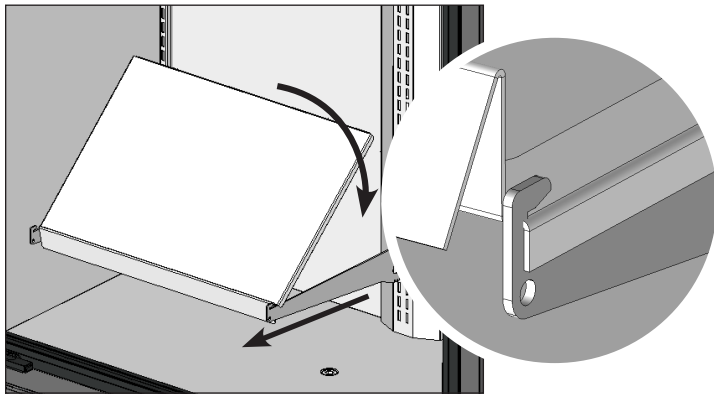

Fig. 5. Position the shelf while lifting the back of the shelf. Be sure the sides of the shelf hang over the bracket.
2. Lift the back of the shelf up. Position the shelf over the shelf support brackets. See fig. 5.
3. Carefully lower the back of the shelf and slide the shelf under the shelf support tab. See figs. 5 and 6.